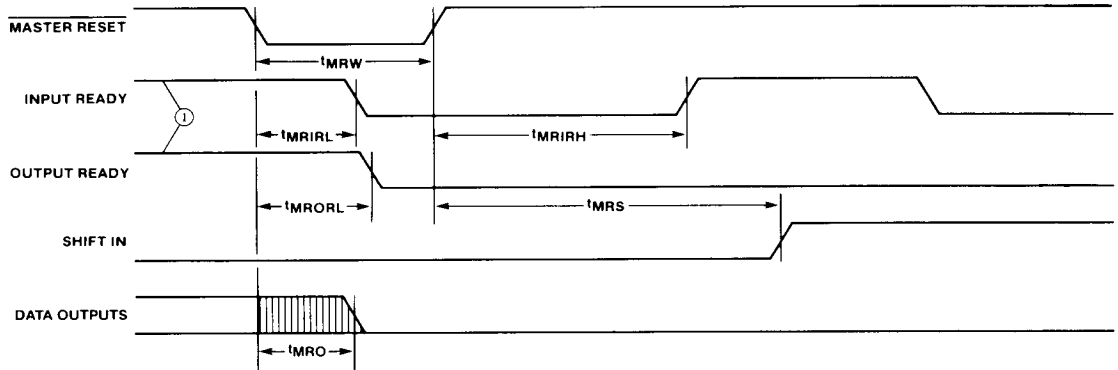

Figure 10. Master Reset Timing
After power up the Master Reset is pulsed low (Figure 10) to prepare the FIFO to accept data in the first location. Master reset must be applied prior to use to ensure proper operation. When Input Ready (IR) is HIGH the first location is ready to accept data from the D_x inputs. Data then present at the data inputs is entered into the first location when the Shift-In (SI) is brought HIGH. An SI HIGH signal causes the IR to go LOW. Once data is entered into the first cell, the transfer of data from any full cell to the adjacent (downstream) empty cell is automatic, activated by an on-chip control. Thus data will stack up at the end of the device while empty locations will "bubble" to the front. t_{PT} defines the time required for the first data to travel from input to the output of a previously empty device. When SI is brought LOW and the FIFO is not full, IR will go HIGH, indicating more room is available. If the memory is full, IR will remain LOW. The FIFO should always be cleared by using master reset.